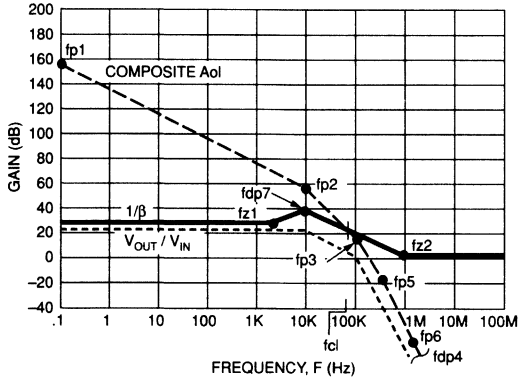
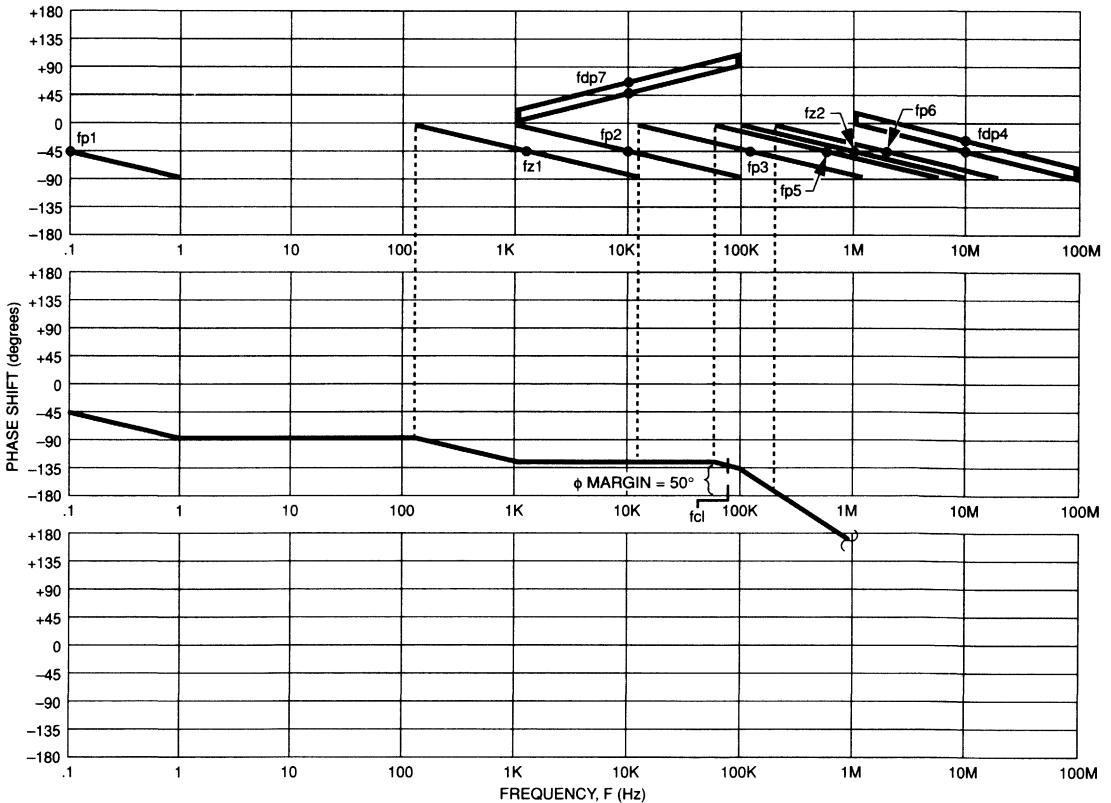

FIGURE 30. COMPOSITE AMPLIFIER MAGNITUDE PLOT FOR STABILITY
FIGURE 31. COMPOSITE AMPLIFIER OPEN LOOP PHASE PLOT FOR STABILITY
- STEP 3:** Compensate composite op amp: Figure 30 (see third page following this one) shows the selected 1/ β plot to stabilize composite amplifier. Both noise gain compensation and feedback zero compensation are used to maximize stability. Figure 31 (see third page following this one) plots the open loop phase for the composite amplifier yielding 50 degrees phase margin and good stability.